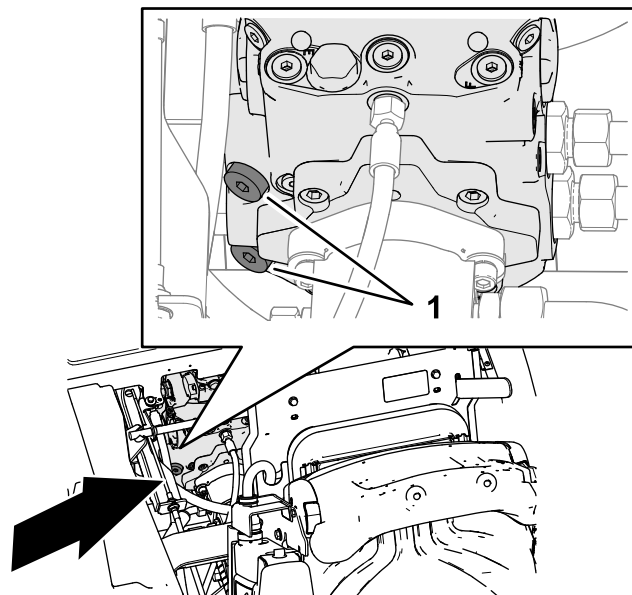

Figure 36
3. Use an 8 mm (5/16 inch) hex key to rotate the 2 socket head plugs for the transmission pump-relief valves clockwise 3 turns (Figure 36).